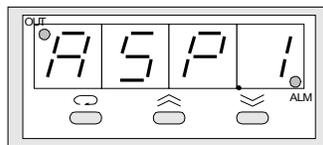

Figure 1
- A. Press the SCROLL key momentarily once to access the first level 0 parameter. The display will flash "ASP.1" as shown in figure 1.
Figures 1 and 2